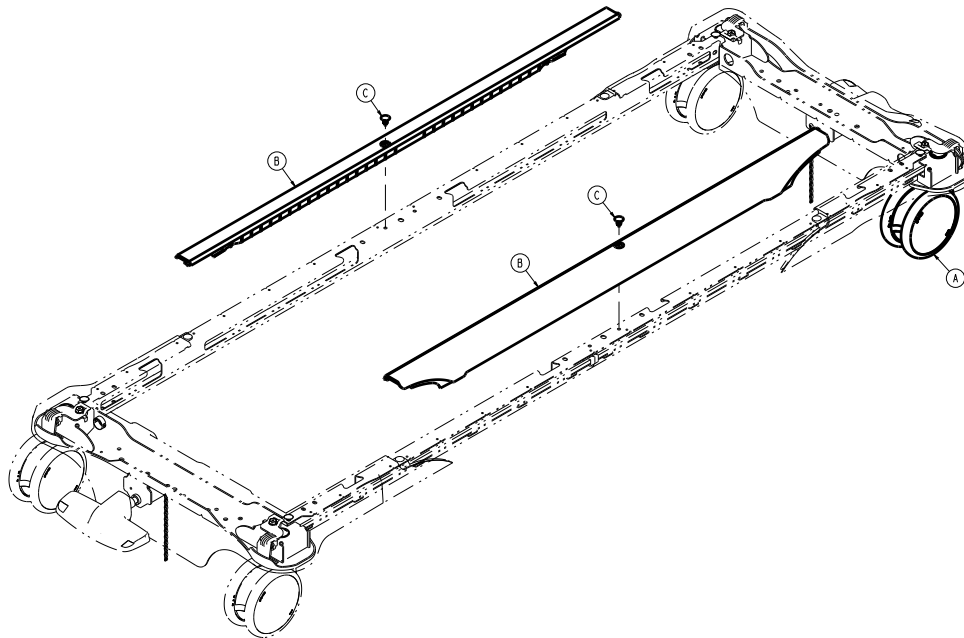

Figure 11 – Removing the covers
5. Using a slotted screwdriver and diagonal pliers, remove the retainers (C) from the left and right center base covers (B) (Figure 11). Discard the retainers. Remove the covers.